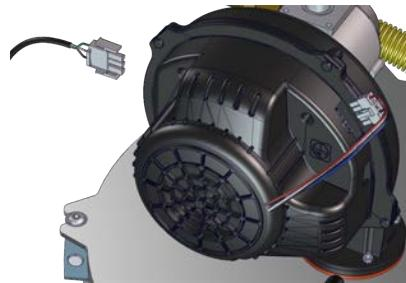

Figure 66 *Fan connectors*
3. Unplug the two electrical connectors from the front and back of the fan (see Figure 66).